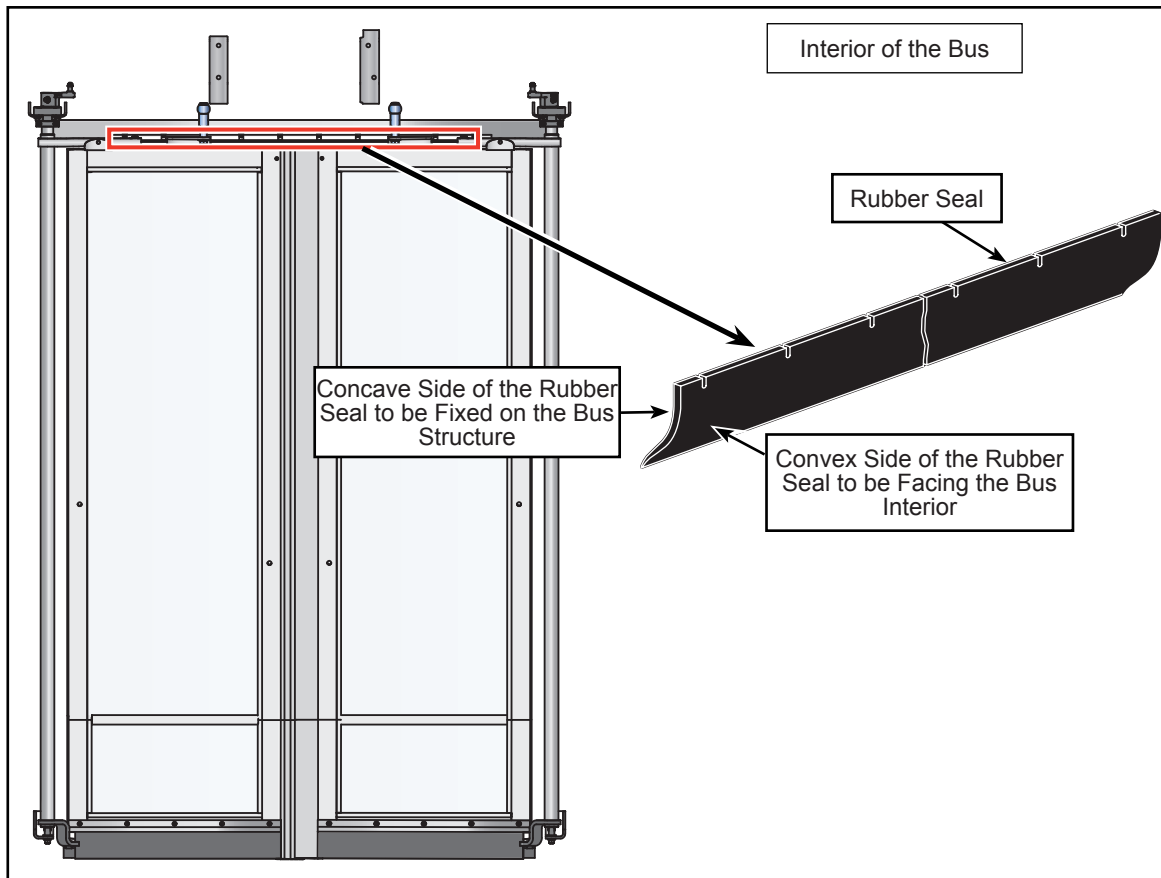

Figure 3 - Alignment of Rubber Seal
- 1.6. Align the holes of rubber seal (N91377) with the pre-existing holes on the door structure (see Figure 3).